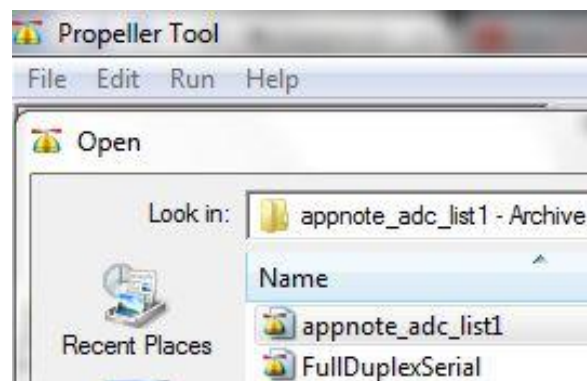

Fig. 7: Opening sigma-delta ADC code in Propeller Tool
8. In Propeller Tool, select File>Open... as in **Fig. 7** to open the downloaded sigma-delta ADC code.